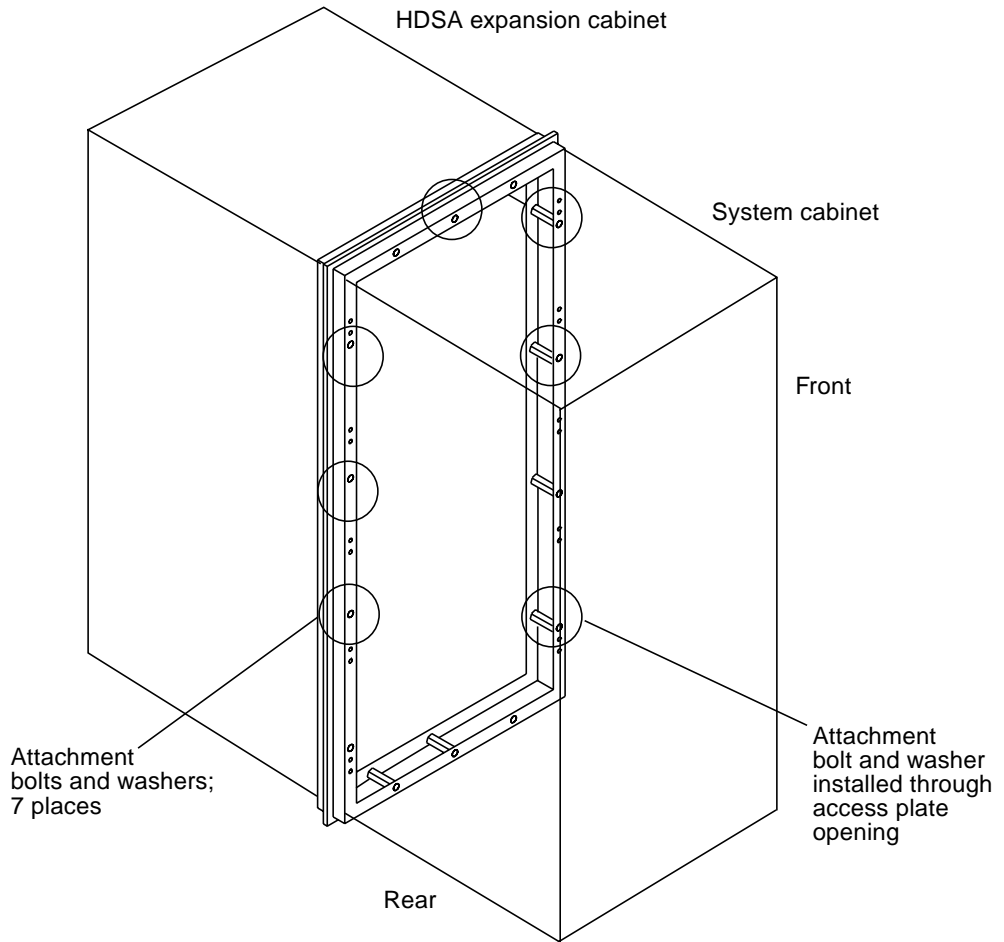

FIGURE B-14 Attachment Bolt and Washer Locations
6. **Insert the hexagonal-head attachment bolt and washers in the each of the openings at the front of the cabinet shown in FIGURE B-14 and tighten. You can access these bolt openings from the front or rear of the cabinet.**